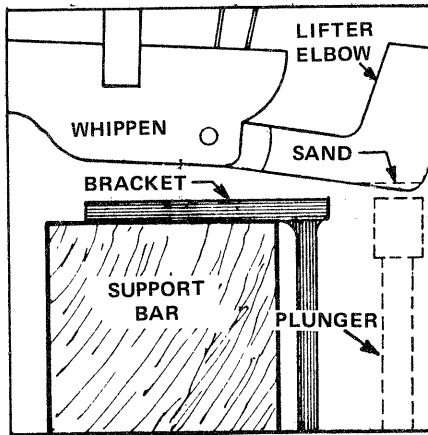
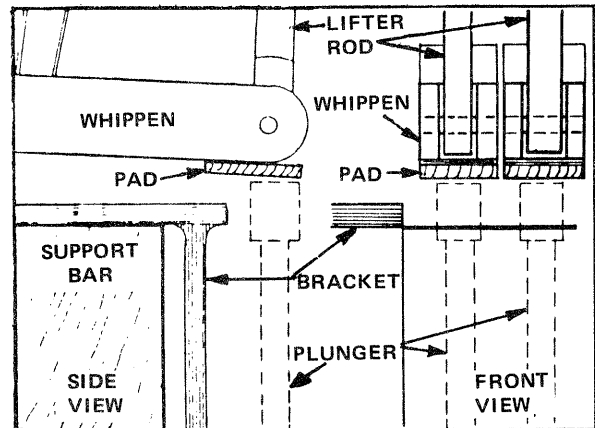

FIGURE 5-13A Sand the ends of the Lifter Elbows as indicated by the dotted line above.
FIGURE 5-13B Glue a wood or plastic pad on the Whippen as shown above.
Refer to FIGURES 5-13 and 5-13B. Get the Action and place it on a work bench or table. If the Action is equipped with Lifter Elbows as shown in FIGURE 5-13A, do Point A below; if it has Whippens as shown in FIGURE 5-13B, do Point B below.
- A. Sand the ends of the Lifter Elbows so the Solenoid plungers will strike the Elbows more directly. See FIGURE 5-13A. Proceed to STEP 5-27.
- B. Glue a small wood or plastic pad on the end of each Whippen. See FIGURE 5-13B. Proceed to STEP 5-27.